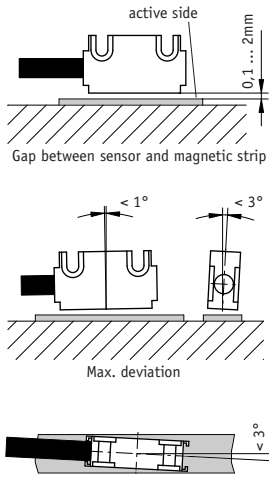

Fig. 6: Mounting of sensor
- When mounting the magnetic sensor, ensure that the gap between strip and sensor and the max. admissible deviation are maintained over the total measuring length (see fig. 6)!